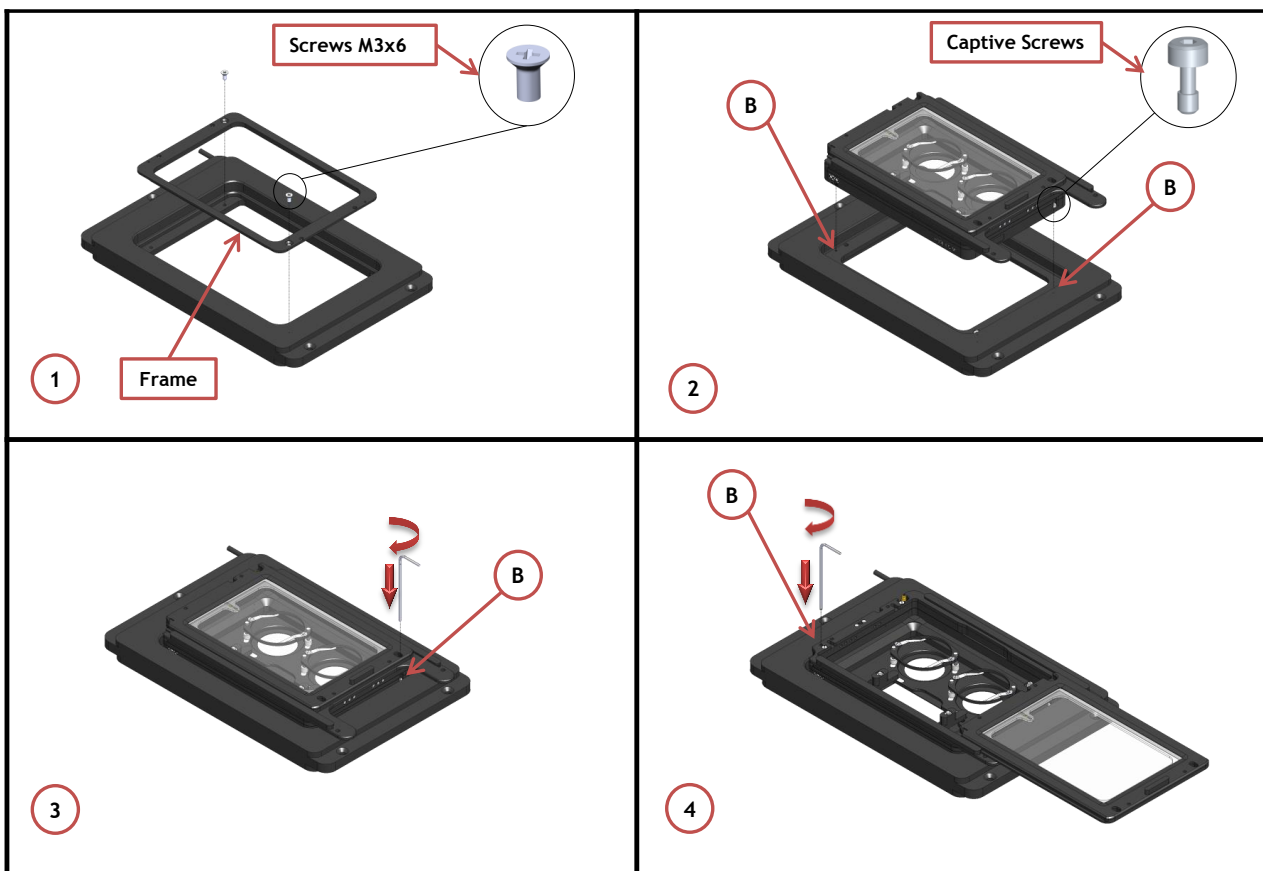

Figure 20. Connection of the Chamber with XY Stage
Follow the steps shown in the images of Figure 20 and listed below in order to correctly connect the chamber with Z piezo stage.
1. Place the frame on the stage and tighten 2 flat Phillips head screws M3x6 (See Image 1 of Figure 20). Screws housings are indicated with letter A in Image 1 of Figure 20.
2. Place the chamber on the stage and tighten 2 captive screws (See Image 2 of Figure 20). Captive screws housings are indicated with letter B in Image 2 of Figure 20.
3. Use a 1.5mm metric Allen Wrench to tighten one of the two captive screws (B in Image 3) while keeping the chamber sliding lid closed (See Figure 20 Image 3)